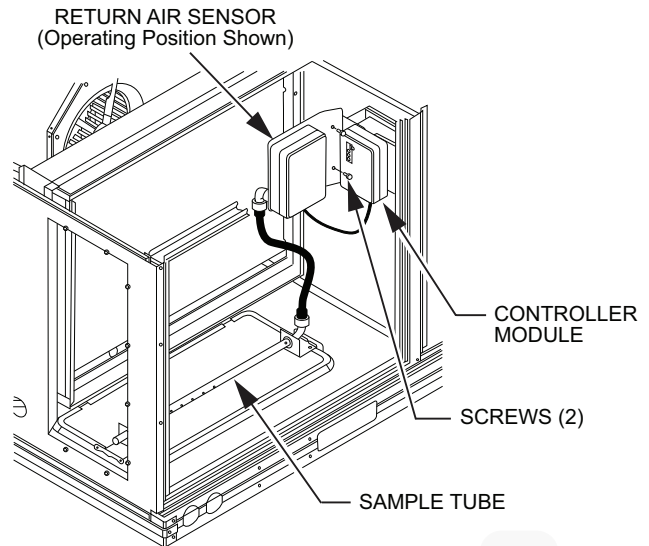

Fig. 45 — Return-Air Sensor Operating Position
3. Rotate the detector plate so the sensor is facing outwards and the sampling tube connection is on the bottom. See Fig. 45.
4. Screw the sensor and detector plate into its operating position using screws from Step 1. Make sure the sampling tube connection is on the bottom and the exhaust tube is on the top. See Fig. 45.